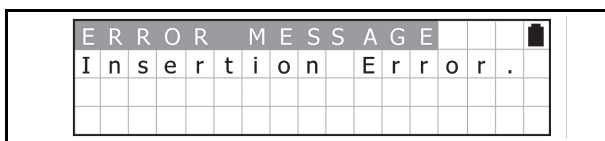

Figure 30 Active Error Code Indication Screen
4. Press the OK Key to display the Active Error Code Indication Screen shown in Figure 30. Press the CLR Key to return to the previous Function Selection Screen.